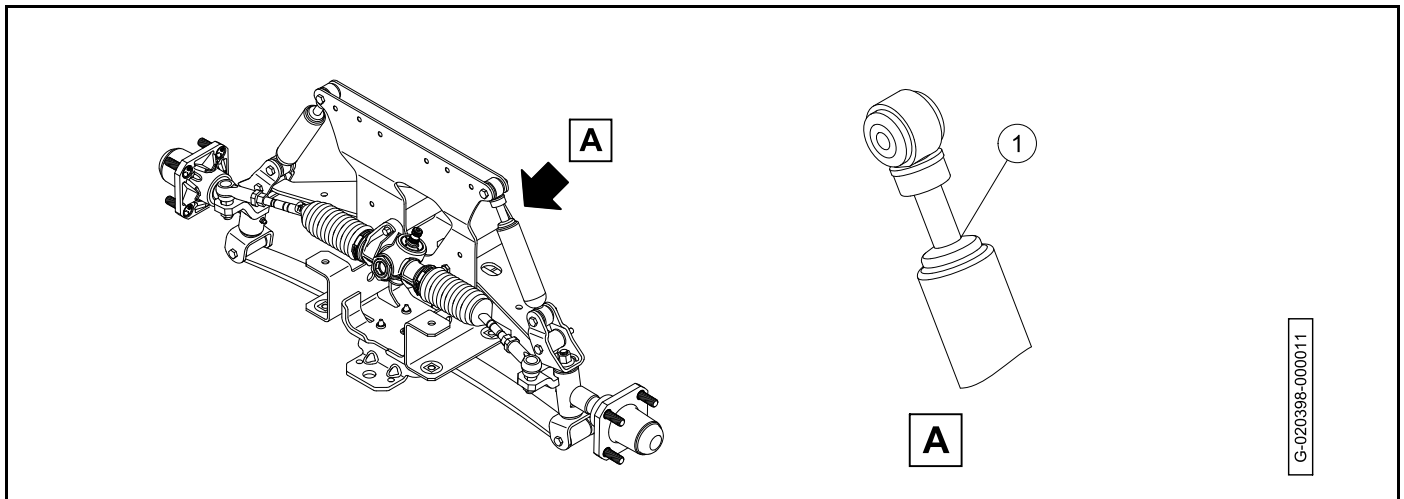

Figure 7-34
1. Examine the area (1) where the shaft enters the shock absorber body (Figure 7-34, Page 7-25).